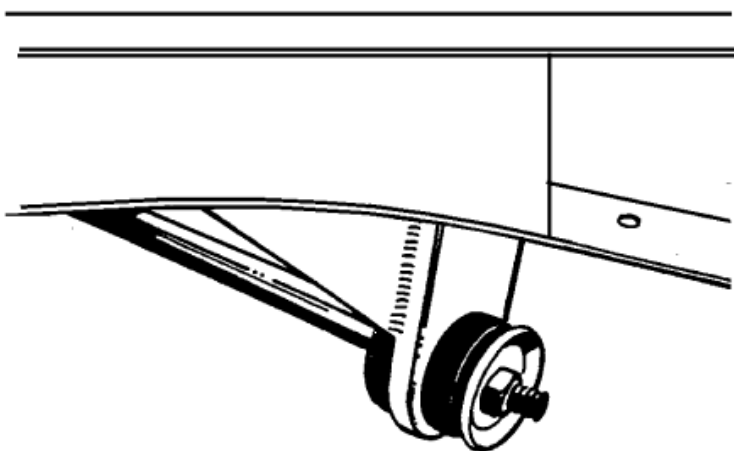

Figure 8- Install Strut Rods
12. Install the strut rod onto the control arm. Now, assemble onto the strut rod the large rubber bushings, including the cupped washers, and the strut mount plate. Be certain to fully tighten the nut on the strut rod to its fully seated position. (See **Figure 8**) There are two rubber bushing sets available; the standard replacement and the improved set. We recommend the improved set, as it provides more stability to the front suspension. The Pinto and Mustang strut rods are different lengths. We recommend the use of Pinto strut rods, as they are bent less than the Mustang strut rods. You will find that with either strut rod the strut rod plate does not line up with the bottom of the frame rail. The strut rod must be heated in the elbow area and bent outward. The rod is bent outward until the strut mounting plate lines up to the frame rail. You will find that because the Pinto strut rod is initially bent less and requires much less bending. The strut rod will act as an alignment fixture while you tack weld the mount plate in place, then tack weld the gusset in place. Remove the strut rod, bushings, and arm, and finish welding to the frame and each other.